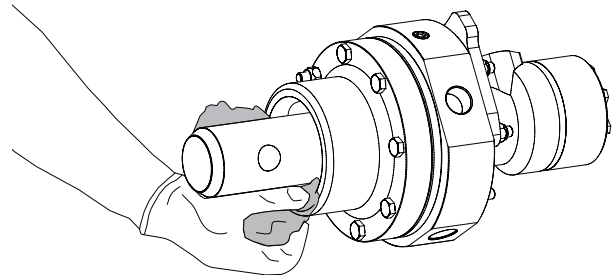

Figure 14
2. Clean the area where the shaft seal sits [Figure 14]. It is recommended to clean the surface area with an alcohol-based cleaner.